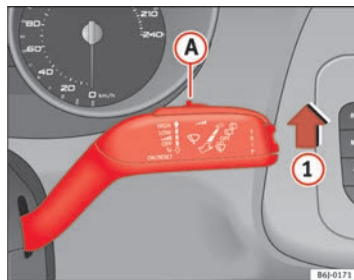

Fig. 61 Windscreen wiper lever
- Move the windscreen wiper lever into position ① ⇒ fig. 61.
- Move the control ① to the left or right to set the sensitivity of the rain sensor. Control to the right: highly sensitive. Control to the left: less sensitive.